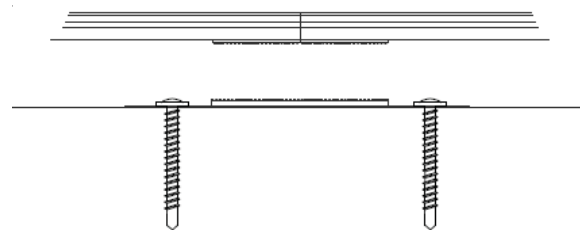

Figure 8
**STEP 12.** Using the anchors provided by the factory, attach the lockdown plate to the substrate so that it is aligned with the flexible lock strips on the mats treads (see Figure 8).